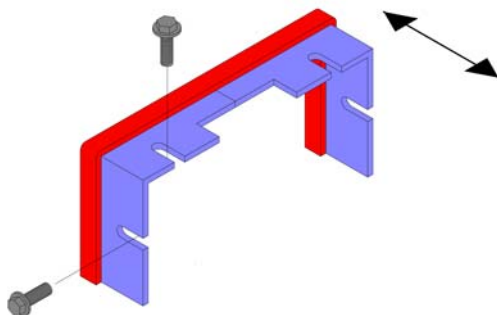

Figure 24
- Fasten bearing box seals (Figure 24) with cutting screws.